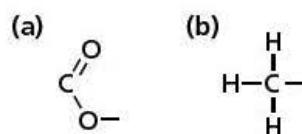

Figure 4
- 2 For each model, measure the bond angles in the parts of the molecules shown in Figure 4.
2 Record the bond angles for each bond type **(a)** and **(b)** in Figure 4.